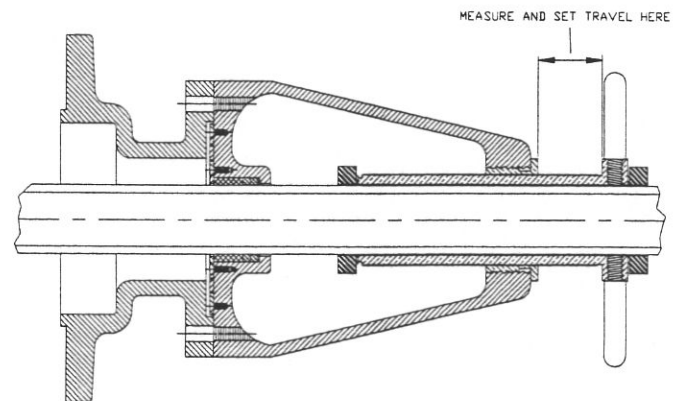

Figure 1
8. Rotate feed screw handles (#12) counterclockwise to back out the feed screw to the desired travel depth which is found on the travel chart (#15), i.e., a 6" tap on a 6" main would require 4 ¾" of travel. Measure the travel distance with a ruler as shown in Figure 1. After travel is set, slide the clamping collars to each side of the feed screw and tighten. Rotate screw handle (#12) one turn counterclockwise to allow the pilot drill to center itself into the water main.